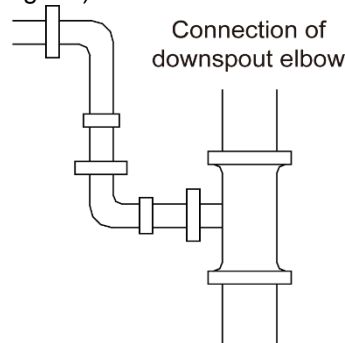

Fig. 15
- Connection of downspout elbow (Fig. 15)